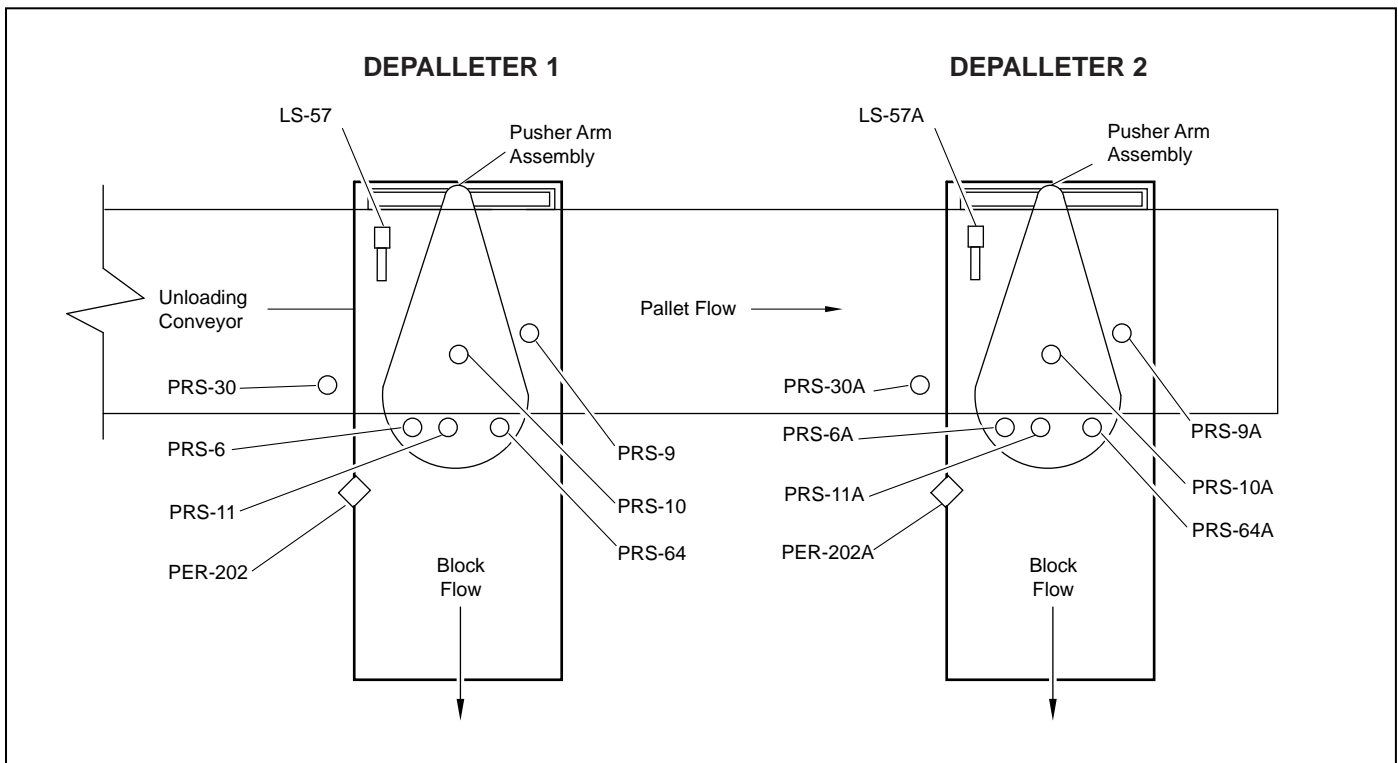

Figure 3.4 Sensor Locations, Pallet Straight Thru Orientation
2. Extend the hydraulic cylinder as shown in Figure 3.4 to point (A).
3. Adjust the cylinder mounting bracket (B) to obtain a 1/16 inch [1.6 mm] gap (C) at the top of the pusher plate.
Inspect the proximity sensors and limit switches periodically for proper operation. Correct sensor adjustment is described below. The sensor numbers for DP1 have an “A” next to them for DP2. The procedure is the same. Refer to Figure 3.4 for sensor locations.